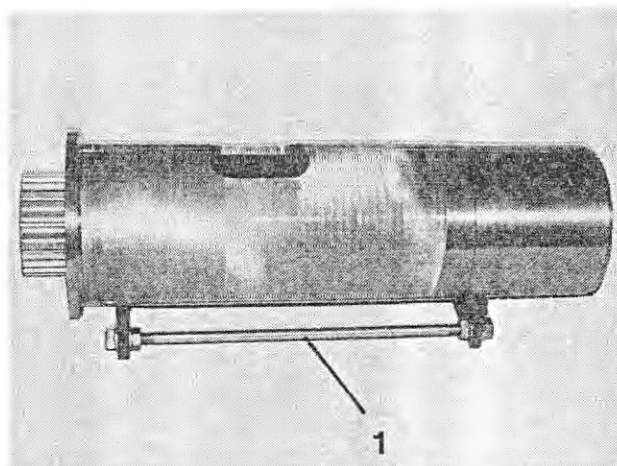

Fig. 180
7. When machine with a direct connection or a hopper are used, place the rotary cylinder on the support (Figure 180/1).
The rotary cylinder must only be put on the support (Figure 180/1).